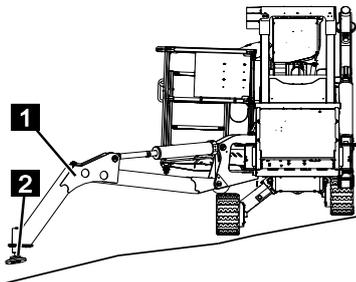

Fig. 105
2. Move the outriggers (Fig.105/1) on the down slope side into the wide or narrow bracing position (↪Chapter 7.11 „Adjusting and operating the outriggers for bracing”, on page 111) and lower them.
3. Make sure that the bracing pads (Fig.105/2) remain just above the ground if possible.
- Observe the maximum height difference when driving over a ridge (max. ridge height  $X = 100$  mm (Fig.105/X).